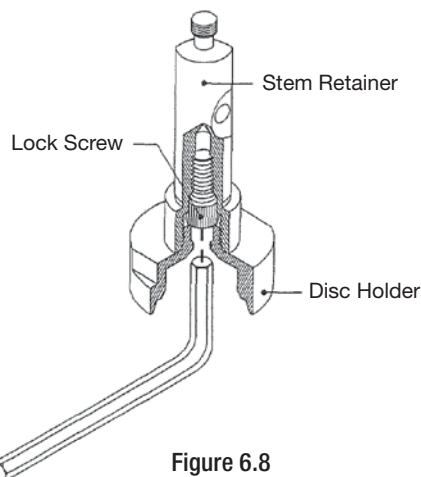

Figure 6.8
- b. The **Disc Holder Lock Screw** [26] has a hex socket requiring the use of an Allen key (**Figure 6.8**).